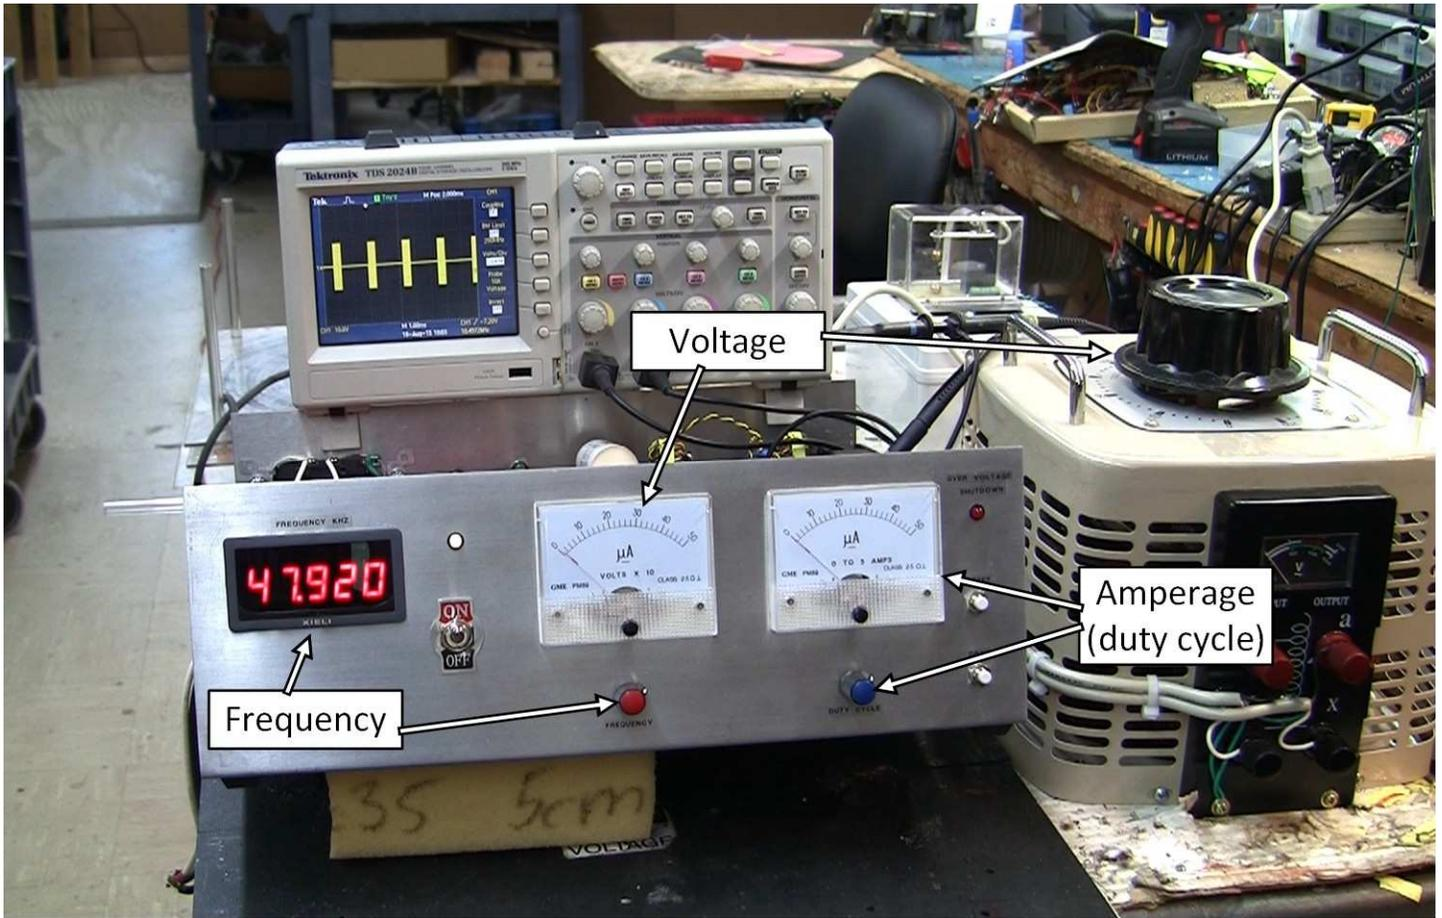

FIG 1: OVERVIEW & FRONT PANEL CONTROLS
9. The digital frequency meter on the panel Fig 1 will display the frequency that you are at and as you tune.